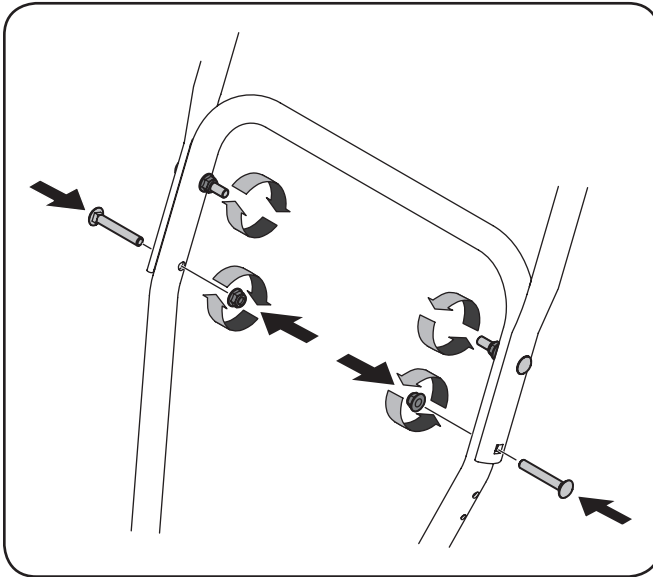

Figure 3-4
5. Reattach the two carriage screws and lock nuts removed earlier as shown in Figure 3-4.